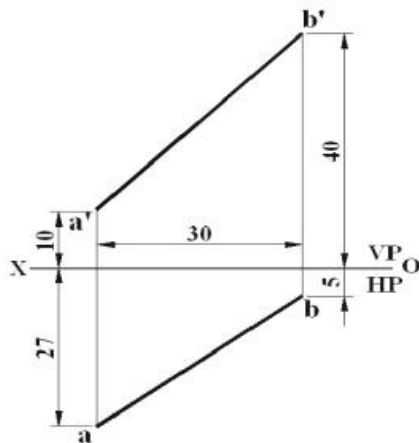

Figure T4.1
5. Orthographic projection of a line is given in **Figure T4.1**. Determine their true lengths and inclinations with the HP using: a) Revolution method and b) Auxiliary view method